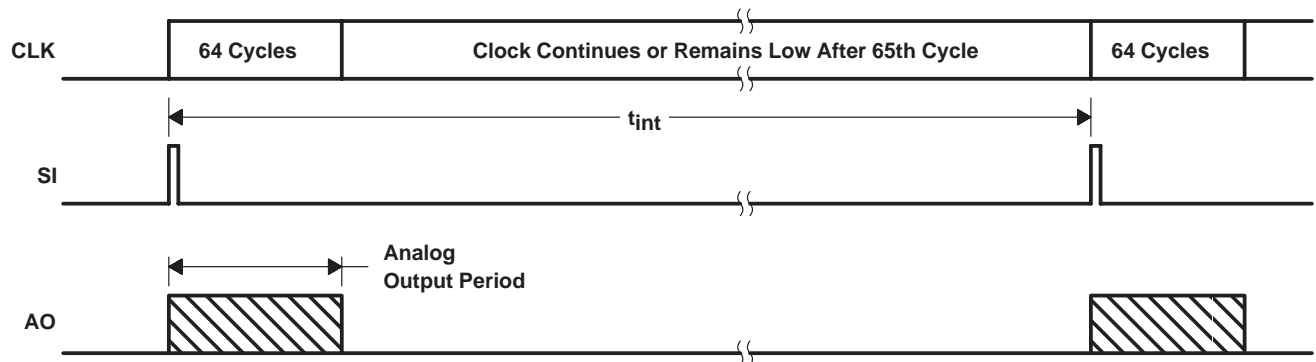

Figure 1. Timing Waveforms
Operation of the 64 × 1 array sensor consists of two time periods: an integration period during which charge is accumulated in the pixels and an output period during which signals are transferred to the output. The integration period is defined by the interval between serial-input (SI) pulses and includes the output period (see Figure 1). The required length of the integration period depends upon the amount of incident light and the desired output signal level.
The output period is initiated by the presence of the SI input pulse coincident with a rising edge of CLK (see Figures 1 and 2). The analog output voltage corresponds to the level of the first pixel after settling time (t_s) and remains constant for a minimum time, t_v . A voltage corresponding to each succeeding pixel is available at each rising edge of the clock. The output period ends on the rising edge of the 65th clock cycle, at which time the output assumes the high-impedance state. The 65th clock cycle terminates the output of the last pixel and clears the shift register in preparation for the next SI pulse. To achieve minimum integration time, the SI pulse may be present on the 66th rising edge of the clock to immediately reinstate the output phase. When the output period has been initiated by an SI pulse, the clock must be allowed to complete 65 positive-going transitions in order to reset the internal logic to a known state.